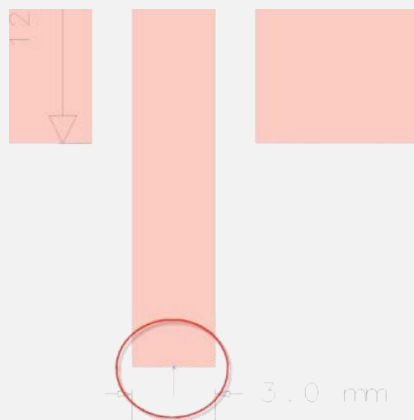

Figure 27. Feed point for microstrip antenna
1. Connect a pin at the feed point of the antenna shown in Figure 27.